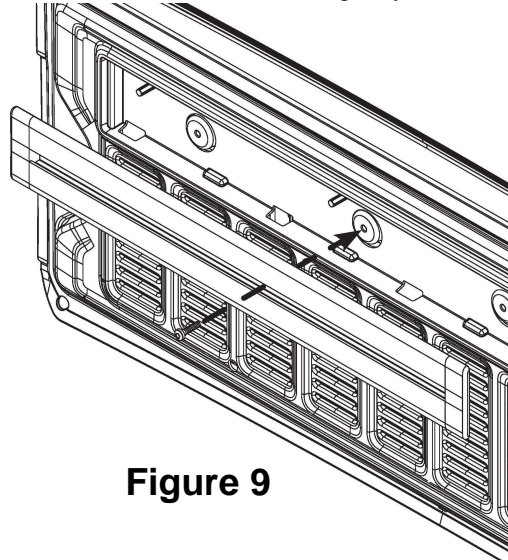

Figure 9
12. Replace the trim panel onto the vehicle tailgate and install the TrailRail using only the center OEM mounting screw. See Figure 9